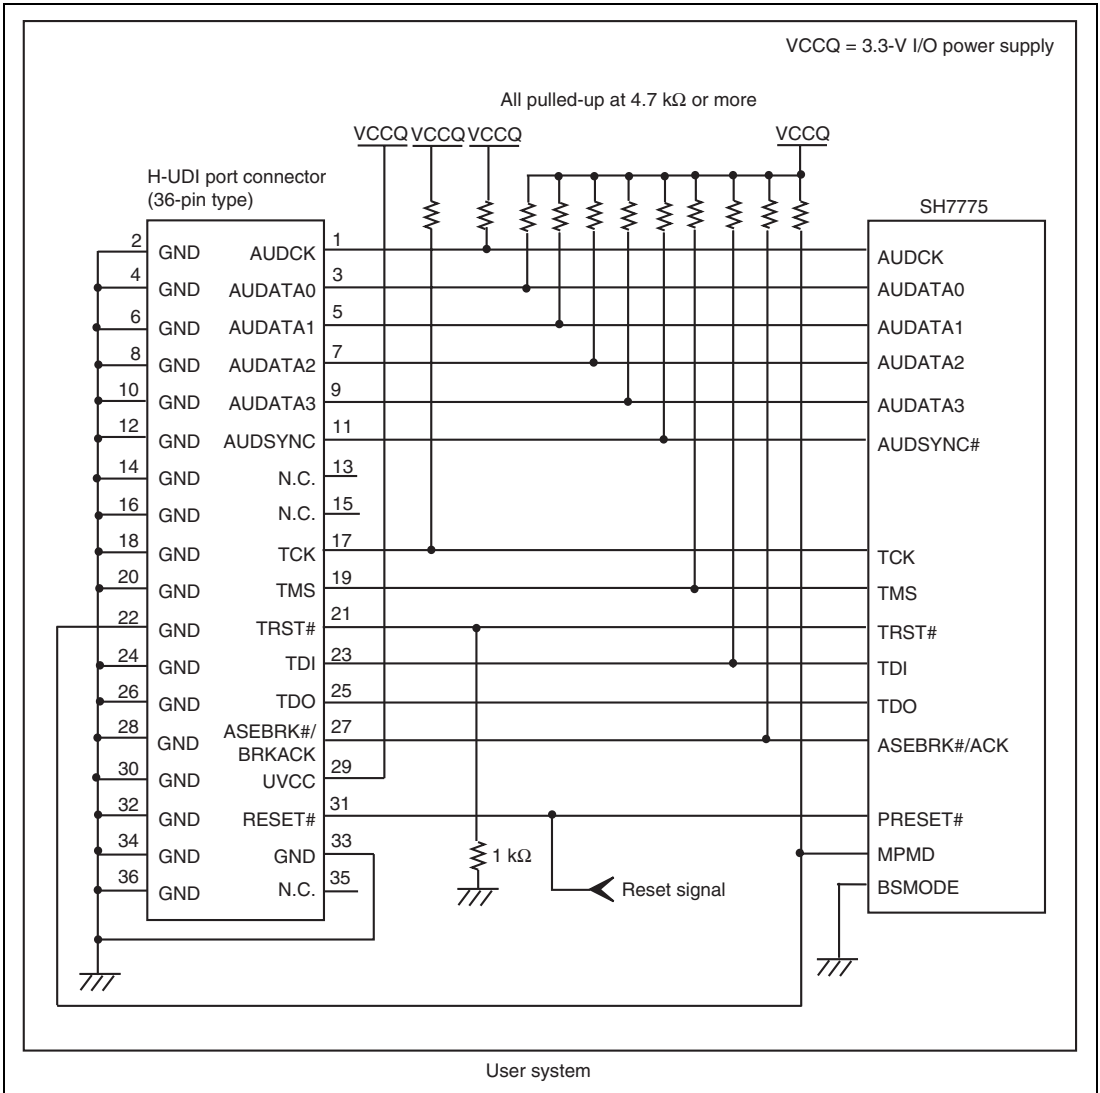

Figure 1.5 Recommended Circuit for Connection between the H-UDI Port Connector and MPU when the Emulator is in Use (36-Pin Type)
Figure 1.5 shows a recommended circuit for connection between the H-UDI and AUD port connectors (36 pins) and the MPU when the emulator is in use.
- (1) When the emulator is used: $MPMD = 0$
- (2) When the emulator is not used: $MPMD = 1$Figure 1.5 shows an example of circuits that allow the MPMD pin to be GND (0) whenever the emulator is connected by using the user system interface cable. When the MPMD pin is changed by switches, etc., ground pin 22. Do not connect this pin to the MPMD pin.
7. The resistance value shown in figure 1.5 is for reference.
When the circuit is connected as shown in figure 1.5, the switches of the emulator are set as SW2 = 1 and SW3 = 1. For details, refer to section 3.8, Setting the DIP Switches, in the SuperH™ Family E10A-USB Emulator User's Manual.